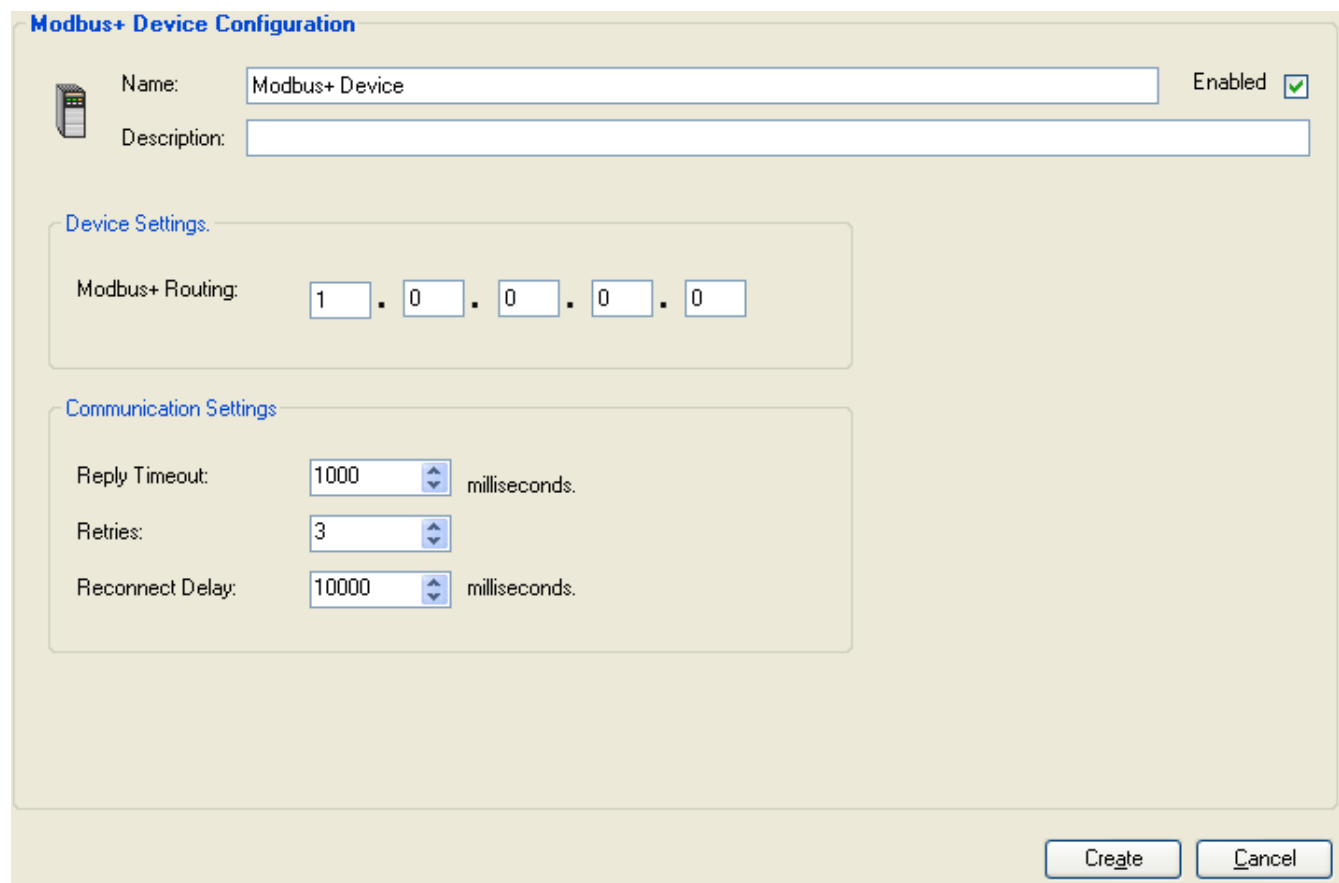

Figure 22 - Modbus+ Device Configuration Page
Figure 22 displays the **Modbus+ Device Configuration** page.
3. The **Modbus+ Device Configuration** page (Figure 22) is displayed in the settings pane on the right side of the screen.